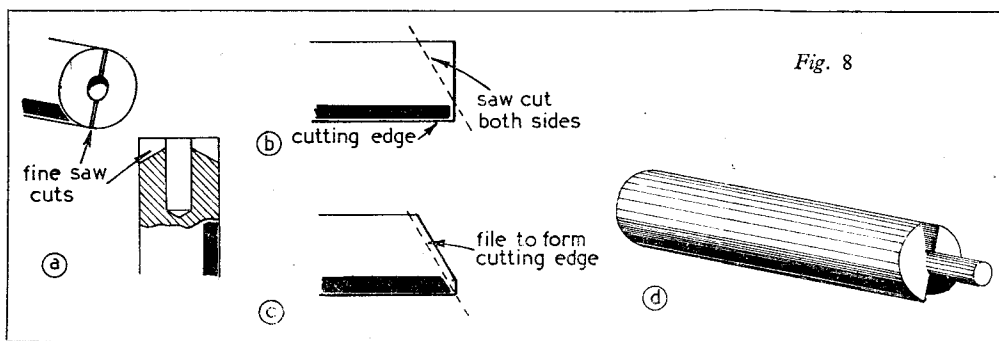

Fig. 8
**A**LTHOUGH a special pin-drill had to be made for this purpose, this was done very quickly in the following manner, as represented in Fig. 8. A short length of  $\frac{1}{16}$ -in., round silver-steel was set to run truly in the four-jaw chuck; the end was faced; a  $\frac{1}{8}$ -in. centre drill was run in for a short distance, and this was followed by a  $\frac{1}{8}$ -in. drill fed to a depth of  $\frac{1}{2}$  in.
periphery, but sloping upwards towards the centre as illustrated at *a*, Fig. 8. As shown at *b*, Fig. 8, two further saw-cuts were made to form the cutting lips, and these were then finished to shape and sharpened with a fine file, as shown at *c*, Fig. 8.
After the cutter had been hardened by heating it to a bright cherry-red and then cooling it in water, it was tempered to a straw colour. Finally, a silver-steel guide peg  $\frac{1}{16}$  in. in length was fitted, and the finished tool had the appearance shown at *d*, Fig. 8.